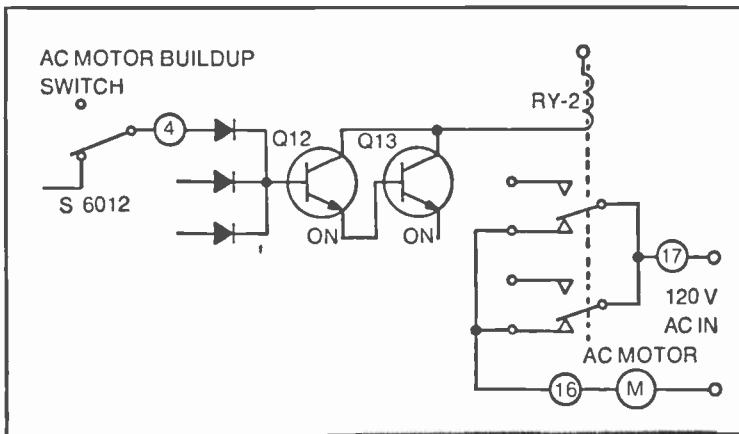

Fig. 9-21. Play control circuit, sequence 2.
- Near the end of threading, the ring closes microswitch S6012 shown in Fig. 9-21. This pulls in RY-2 and powers the main motor. The heads and capstan now turn, and the eccentric begins to move.